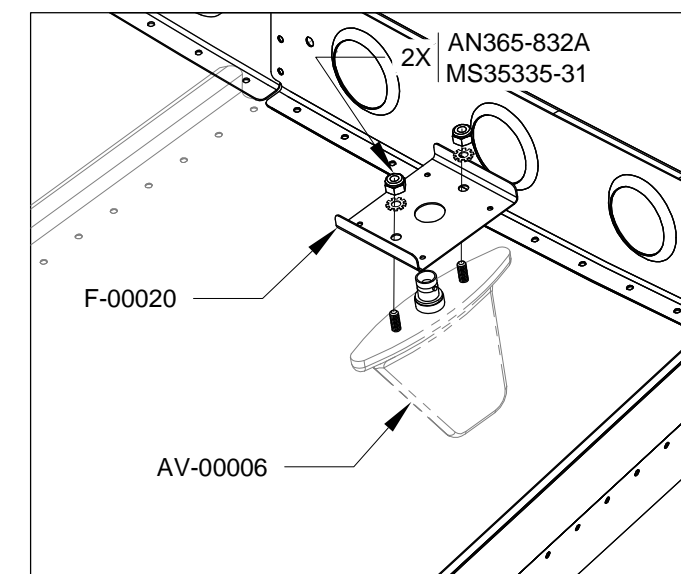

FIGURE 3: INSTALLING THE UAT ANTENNA (BOTTOM SKIN SHOWN TRANSPARENT)
Step 4: Install the AV-00006 Blade ADS-B Antenna to the F-00020 Antenna Doubler and F-1282-L Bottom Left Skin using the instructions and hardware supplied with the antenna. See Figure 3.